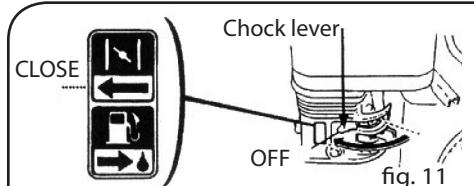

fig. 11
- Push the choke lever to the OFF position OFF (Fig. 11).